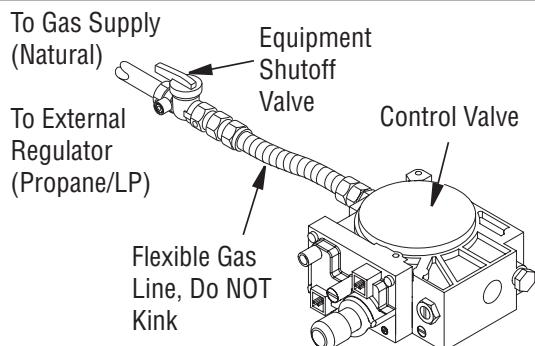

Figure 33 - Connecting/Disconnecting Gas Line to Control Valve
1. Using a 5/16" hex socket wrench or nut-driver, connect or disconnect flexible gas line and control valve (see *Figure 33*).